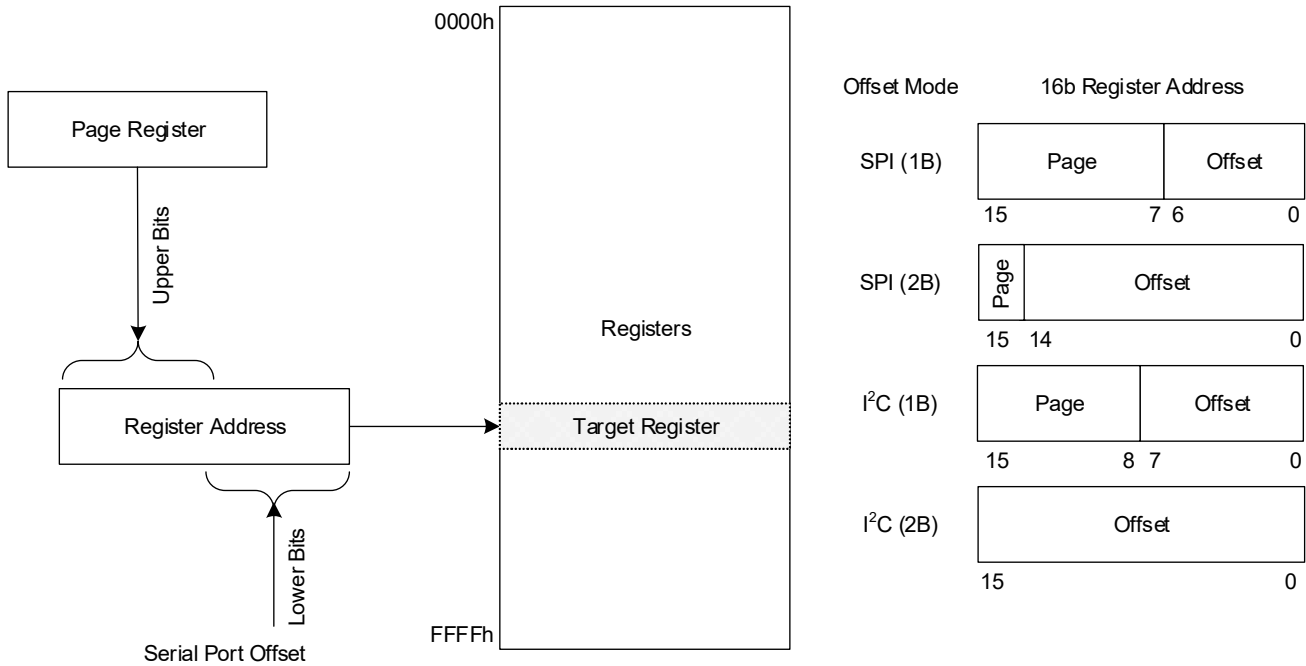

Figure 9. Register Addressing Modes Using Serial Port
You can choose to operate the serial port providing the full offset address within each burst, or to operate in a paged mode where part of the address offset is provided in each transaction and another part comes from an internal page register in each serial port. Figure 9 shows how page register and offset bytes from each serial transaction interact to address a register within the RC22312, RC22308.
The selection of 1-byte (1B) or 2-byte (2B) offset addressing must also be configured using the `ssi_addr_size` register field. These offsets are used in conjunction with the page register to access registers internal to the device (see Figure 9). Because the I2C protocol already includes a read/write bit with the Dev Addr, all bits of the 1B or 2B offset field can be used to address internal registers.
- 1-byte (1B) or 2-byte (2B) offset addressing (*ssi\_addr\_size*) (see Figure 9)